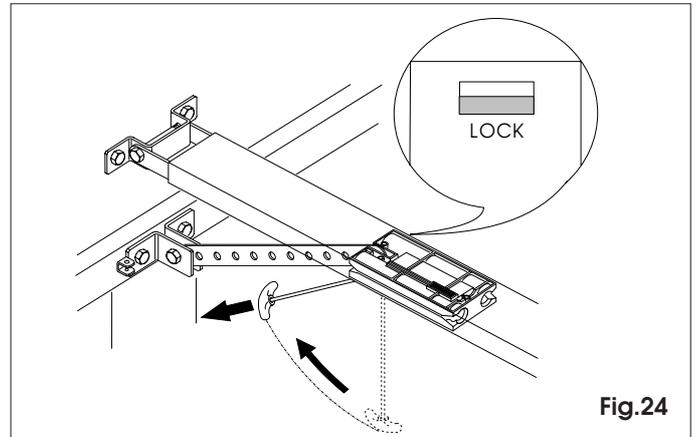

Fig.24
7.23 Re-lock the automatic system by pulling the handle sideways (fig.24) N.B.: on release, make sure you can see the red "LOCK" indication window under the carriage - this means it was correctly reset.